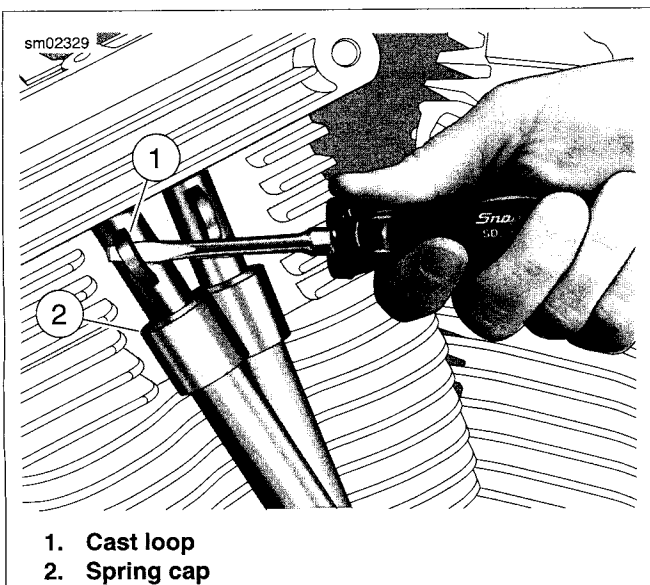

Figure 3-18. Removing Spring Cap Retainer
- 1. See Figure 3-18. Insert the blade of a small screwdriver into cast loop (1) of spring cap retainer (at top of upper push rod cover). While pushing down on spring cap (2), rotate bottom of screwdriver toward outboard side to remove. Repeat step on second push rod cover.